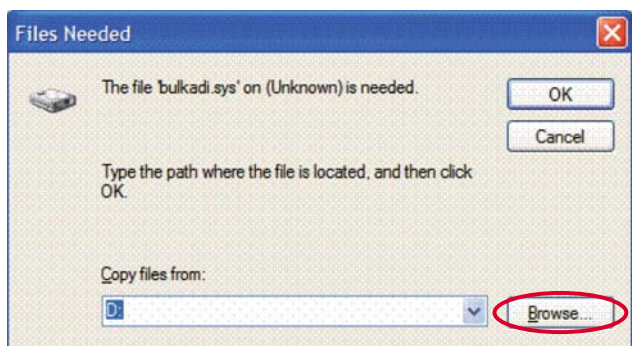

Figure 8. Select Location of bulkadi.sys File
5. The **Files Needed** dialog box in Figure 8 appears. To find the required file, bulkadi.sys, click **Browse**.